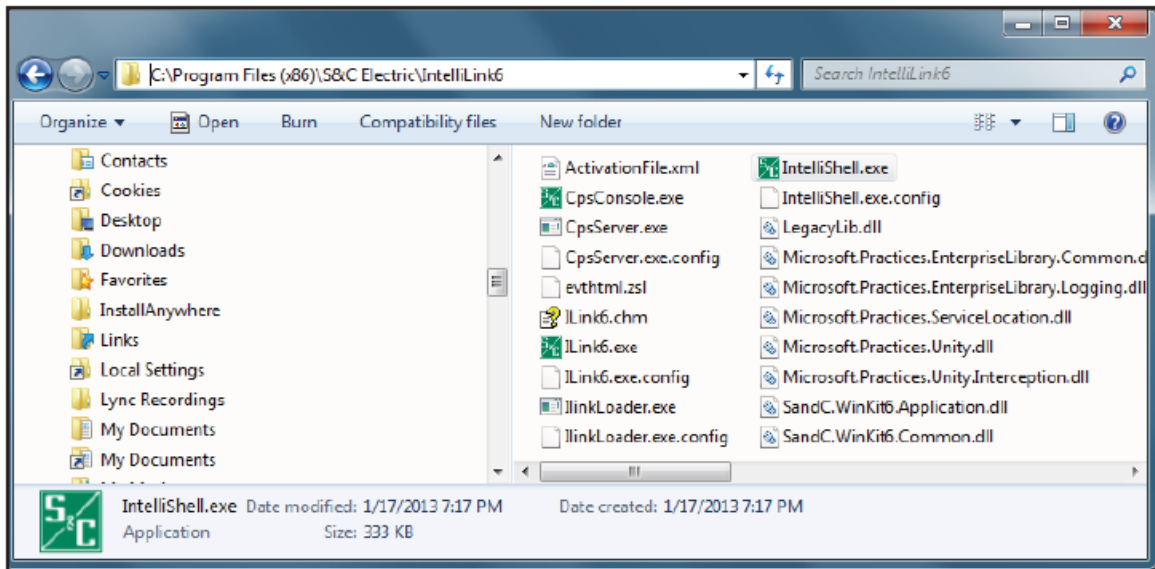

Figure 15. The location of the IntelliLink Setup Software application file.
- **STEP 1.** IntelliLink software is installed in the C:\Program Files (x86)\S&C Electric\IntelliLink6 folder. Double-click the ILink6.exe application to launch the IntelliLink software. The location of the file is shown in Figure 15.